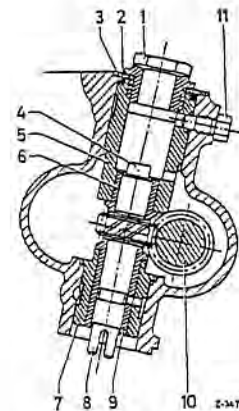

Fig. 18-6/12
1. Back off screw plug (1) about 2 turns, unscrew hexagon screw with spigot (11) and by inserting a screwdriver between the screw plug and the cover disk, and push out the pressure piece (5) upward (see Fig. 18-6/12).
2. Extract helical gear/drive shaft (8) for oil pump (see Fig. 18-6/12).
3. Completely unscrew screw plug (1) from the pressure piece (5) and remove cover disk (2) and the rubber ring (3) (see Fig. 18-6/12).